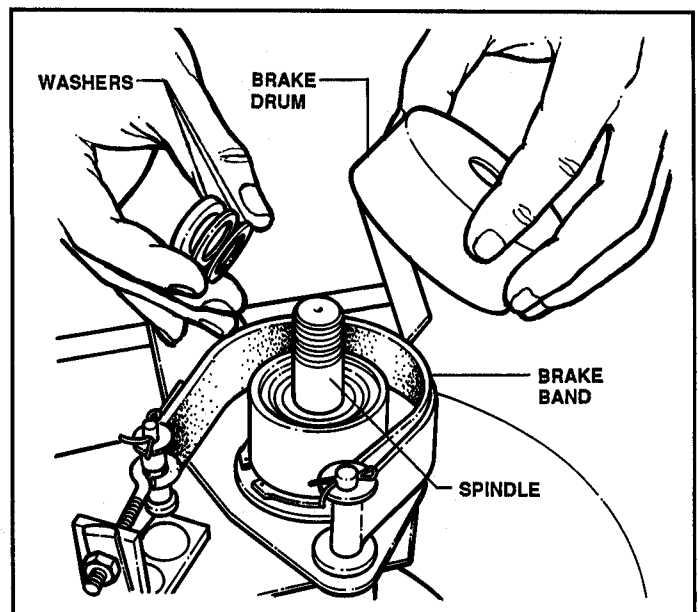

FIGURE 3.15
2. Remove pulley, brake drum and washers. See Figure 3.15.